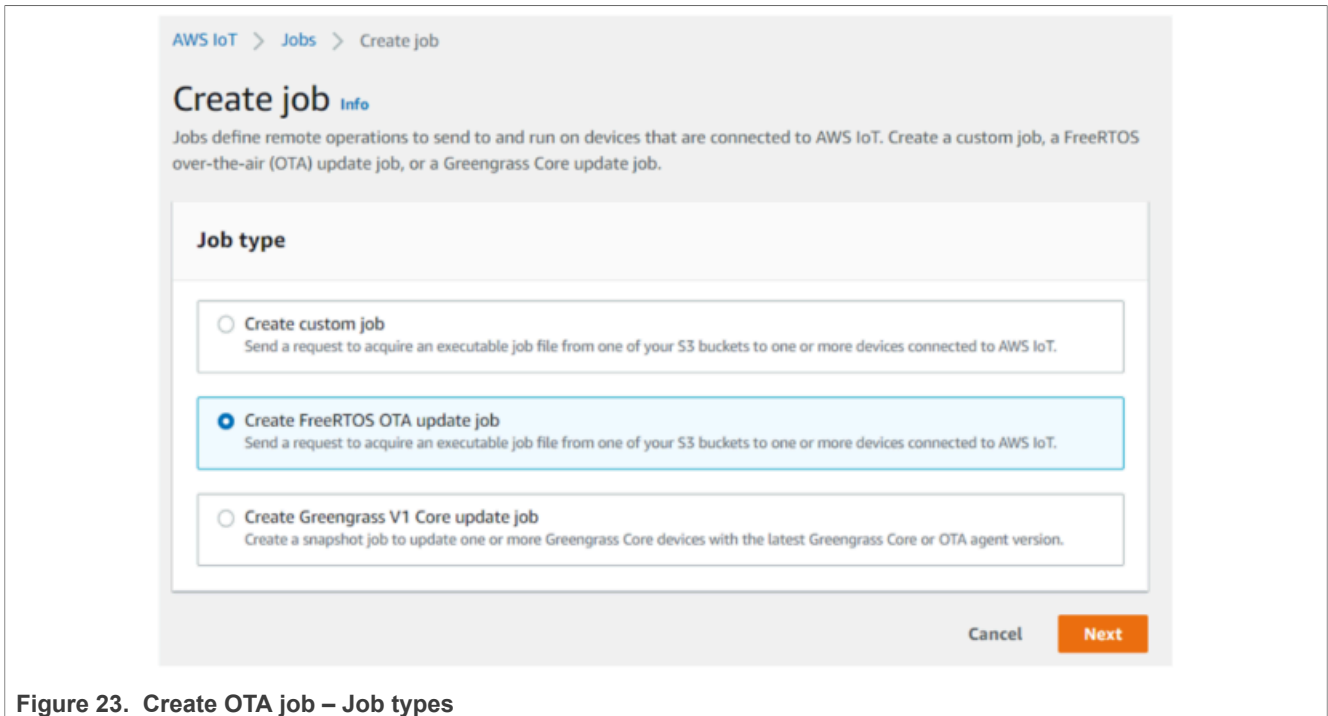

Figure 23. Create OTA job – Job types
2. A new window appears. Inside this window, select Create FreeRTOS OTA update job as shown in Figure 23: